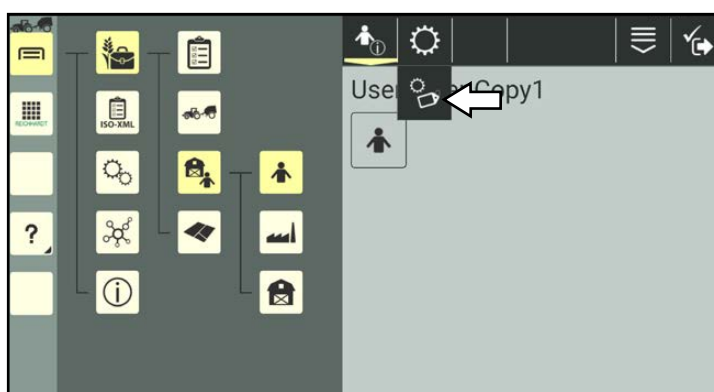

Fig. 193: Calling up the identification
-  Open the user identification via the settings (gearwheel) in the user properties (see Fig. 193).